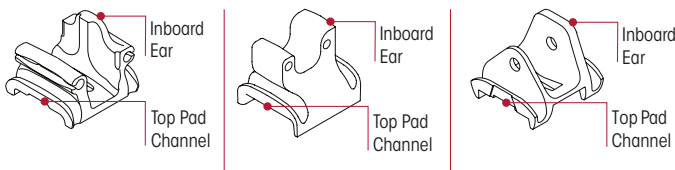

Figure 114: Top Pad Variation
1. Install the top pad (if removed) on the top of the axle engaging the dowel pin. Care should be taken to ensure the taller ear of the top pad is mounted to the inboard side of the suspension. Refer Figure 114.